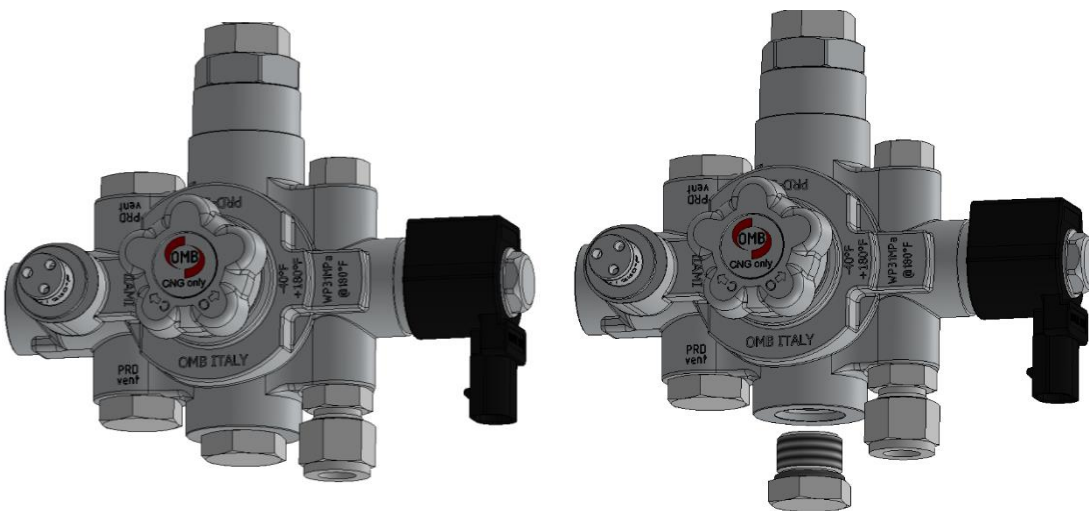
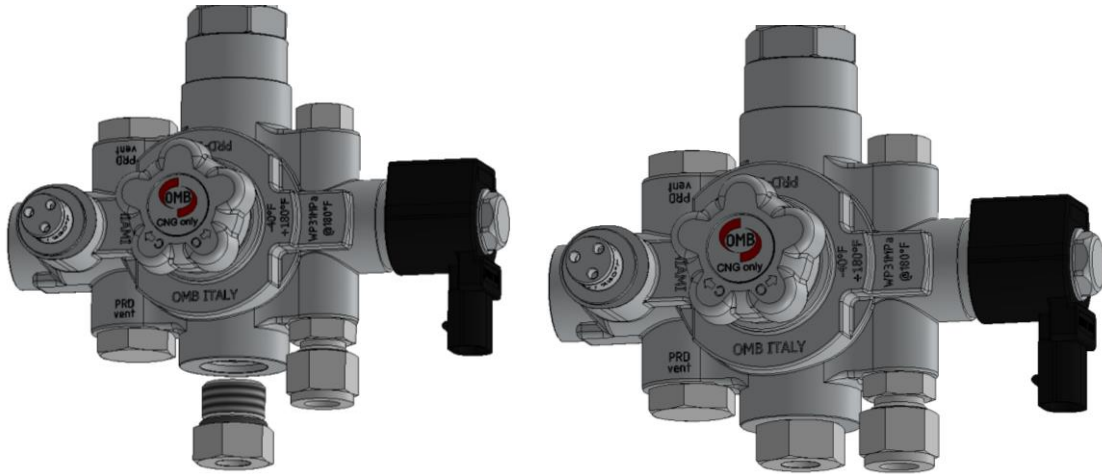

Figure 2. Remove the plug from the cylinder valve as shown.
Figure 3. Replace the plug with the adapter as shown. Make sure to lube the O-ring before installing the adapter.
- a. Remove the plug from the valve as shown in Figure 2 and replace it with the reducer adapter as shown in Figure 3. Remember to lube the O-ring.